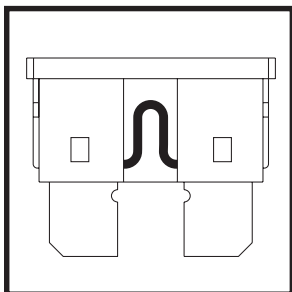

Figure 28. Working Fuse
2. Examine the fuse to be sure it is blown. See figures 28 and 28A.